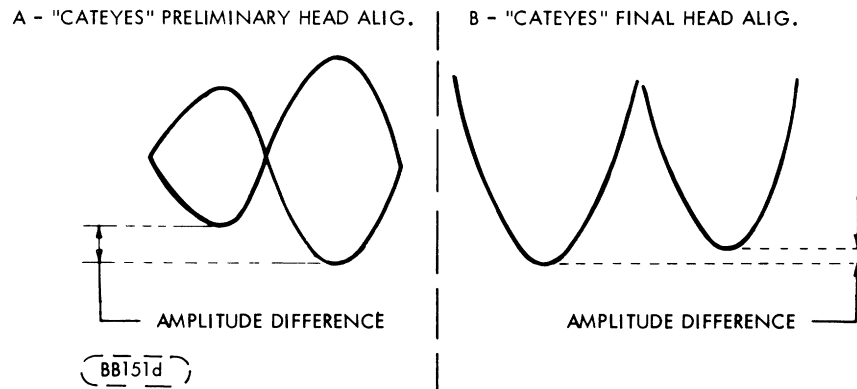

FIGURE 6-8. HEAD ALIGNMENT AMPLITUDE
Scope trace after trigger level is adjusted for repetitive trace should display an envelope of data "Cateyes" consisting of two lobes (refer to Figure 6-8). If no such pattern can be displayed, manually turn the stepper motor shaft extending from the rear of the stepper motor one-quarter turn either way to locate pattern. The amplitude of the smaller lobe must exceed 200 mV p-p. Then proceed to step "h".
- g. Change the volts/div of Channel 1 and Channel 2 to 0.02 volts/div. Move the trace on the scope (Position Knob) up until the bottom of the two lobes are setting approximately on the base line (refer to Figure 6-8). For an acceptably aligned unit, the voltage ratio of the smaller lobe to the larger lobe should exceed 80%.